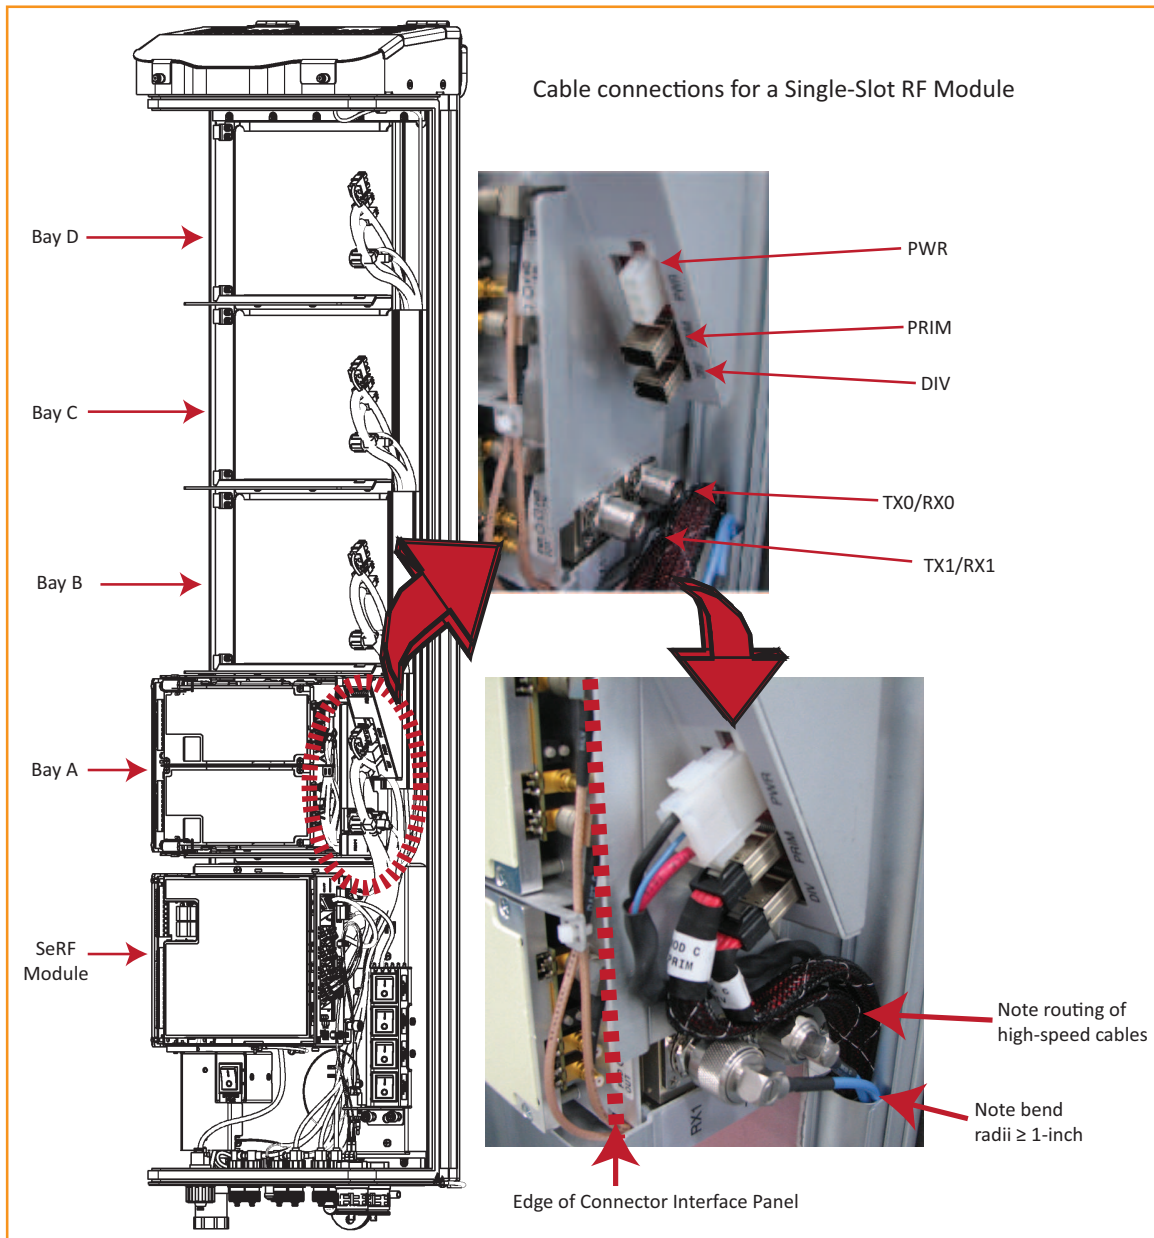
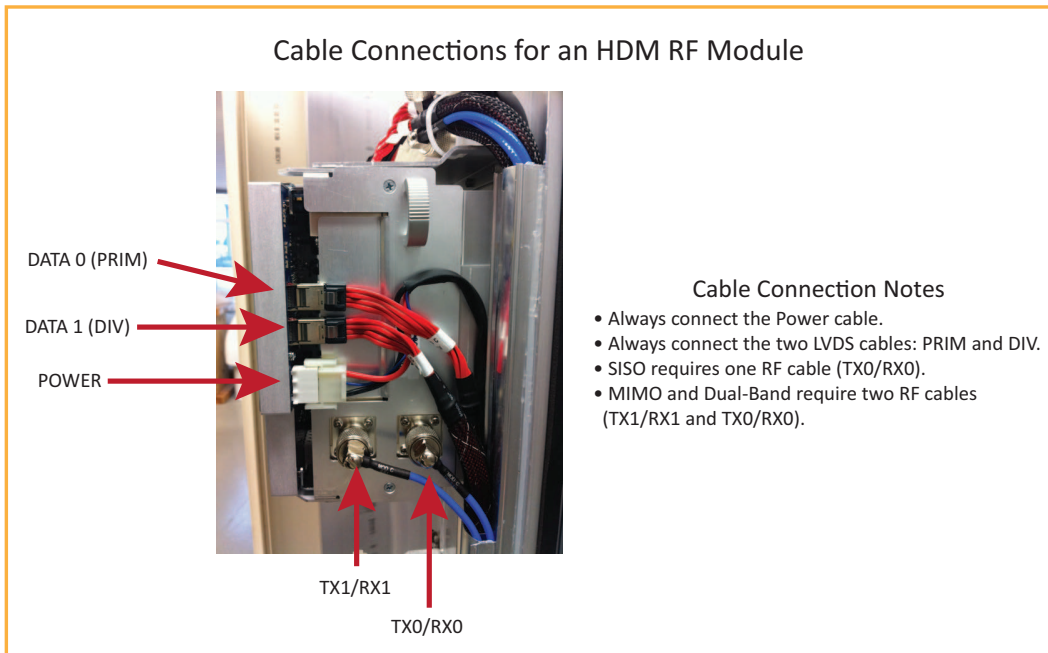

Figure 21. Cable Connections for Single-Bay RF Modules
Figure 22. Cable Connections for HDM RF Modules
- 3 Connect the RF Module cables, in the order shown below. As you work, refer to the graphic that corresponds to the RF Module being installed into a single bay of the PRU: for a Single-Bay RF Module, refer to Figure 21 on page 38, and for an HDM RF Module, refer to Figure 22 on page 39 and Table 12 on page 39.